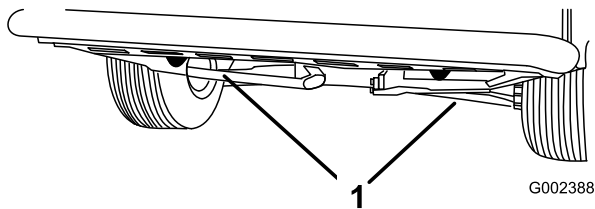
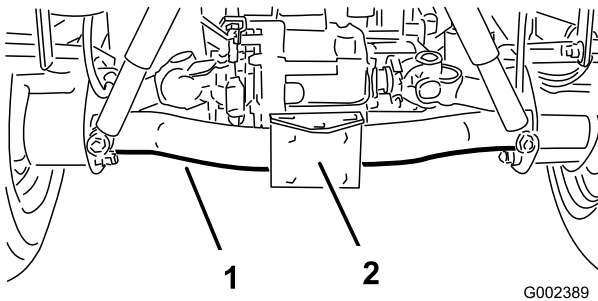

Figure 28
Figure 29
3. The jacking point at the front of the vehicle is under the front center frame support (Figure 28) and at the rear it is under the axle tube (Figure 29).